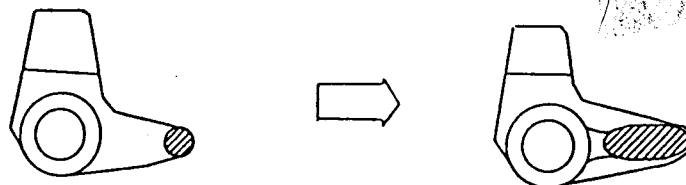

Fig.2
**Solution:** From the production Oct. 1989 a new model tension adjusting lever has been used. (see fig.2). The contact surface of the new tension adjusting lever has been enlarged by changing it from cylindrical into oval.